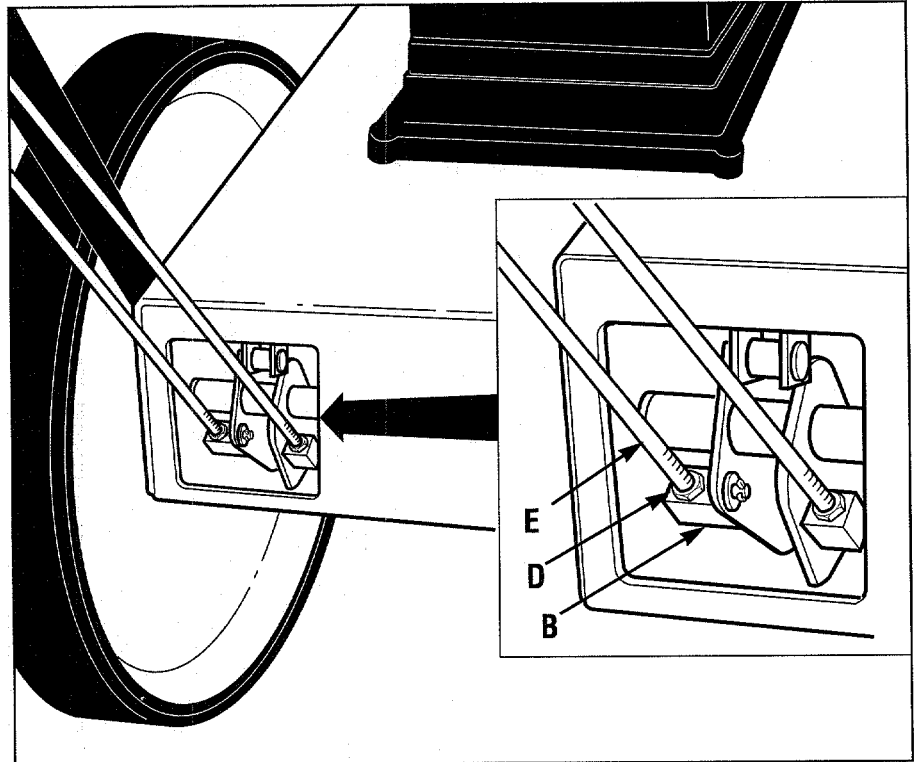

Figure 5-12: Wheel drive belt adjustment.
3. Loosen jam nut (D, Figure 5-12).
4. Thread rod (E, Figure 5-12) one or two turns clockwise for more tension or counterclockwise for less tension.
6. Retest belt traction. Repeat adjustment procedure, if necessary. When adjustment is complete, tighten jam nut (D) firmly against block (B).